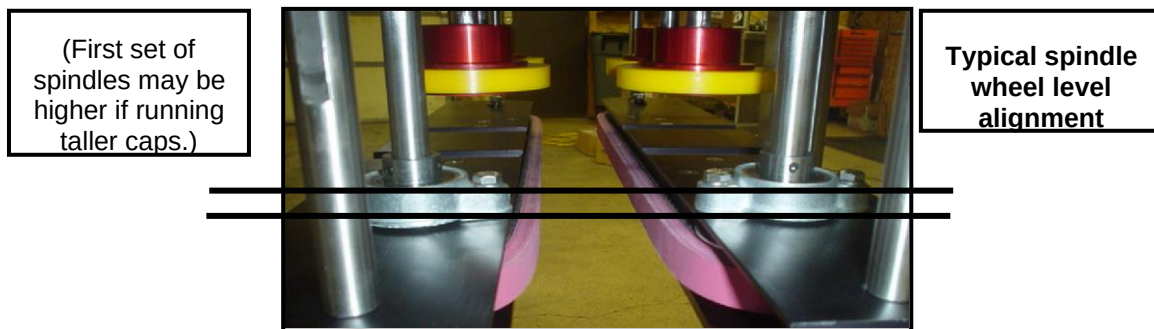

Figure 13. LEVEL SPINDLE ALIGNMENT.
- 4b.** Both pairs of spindles should be level along the line. Refer to Figure 13. When running taller caps, however, it may be necessary to raise the first pair of spindles.